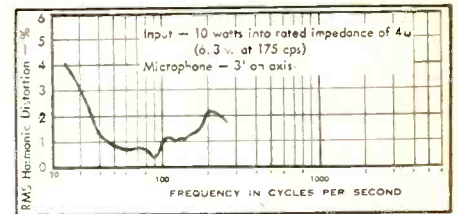
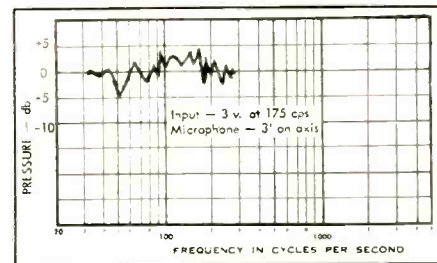

Fig. 4. Harmonic distortion of the AR-1W in the corner of a room.
Fig. 7. Frequency response of low range of AR-1W in the corner of a normally live room.
Fig. 4. Philosophy of the corner speaker. (A) symbolizes a non-directional radiator; (B) shows this bisected; (C) shows half the speaker of (A) with the other half a mirror image formed by a wall located at the bisecting line in (B); (D) shows bisection and a corner speaker producing the same radiation pattern in its quadrant as did the nondirectional speaker in the same quadrant.
Fig. 5. Oscillograms of acoustic output of AR-1W (conditions listed in Fig. 4) at 10 watts to rated impedance, at 32, 60, and 100 cps, respectively, from left to right. The extreme uniformity of output is accidental, as can be seen from the frequency-response graph of Fig. 7.
The graphs of Fig. 3 plot the r.m.s. distortion-frequency characteristic of the AR-1W at 10 and 20 watts input to the rated impedance (4 ohms). Amplifier gain was adjusted to 6.3 and 9 volts output across the speaker at 175 cps, and left that way for the run. The radiation angle was 180 deg. Figure 4 plots the distortion-frequency characteristic of the AR-1W in the corner of a normally live living room, and Fig. 5 shows oscillograms of the acoustic output of the speaker at 32, 60, and 100 cps, with 10 watts into the rated impedance under the latter conditions.
The graph of Fig. 7 plots the frequency response of the speaker in the corner of a normally live living room, fed by an amplifier with a damping factor of 4.